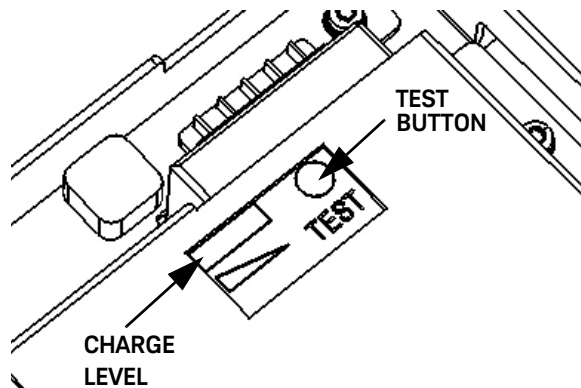

Figure 4-4 Test button and charge indicator
- 7 Push and hold the white test button on the battery while observing the charge-level indicator (Figure 4-4). The charge level should be at least 25%. It should charge to between 75% and 100% after installation when AC power is applied to the counter.